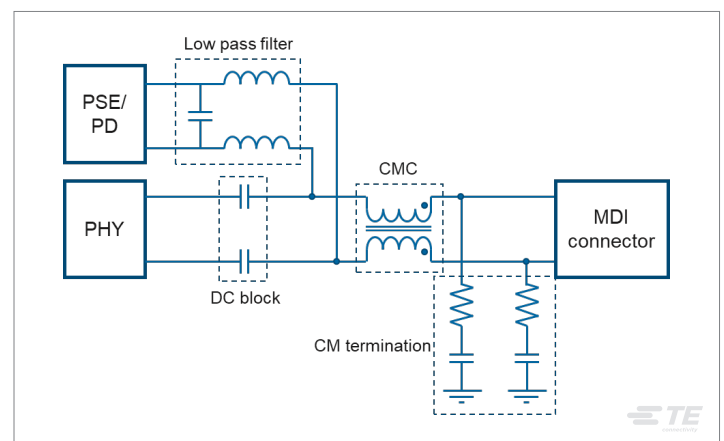

Figure 3: Generic SPE circuitry with PoDL. Courtesy of TE Connectivity.
PoDL is a very compact way to combine power and data on only two signal wires what has been standardized in IEEE802.3bu. It enables a lot of latest future applications requiring smaller and lighter connectivity solutions. At the moment PoDL is defined for a point to point connection that on one side has the power supply, named "Power Sourcing Equipment" (PSE) within IEEE, and on the other side the "Powered Device" (PD). When the power is injected on or tapped off the data line it should not disturb the data transmission. A typical circuitry that could be used to connect the PHY chip and the power to the data lines is shown in Figure 3. The basic circuitry of SPE requires a common mode choke (CMC) combined with common mode terminations to suppress common mode noise, and DC block capacitors. The power lines can be connected to the SPE lines by adding a low pass filter or only series inductors in between the PSE or the PD and the data lines to not disturb the data signals.